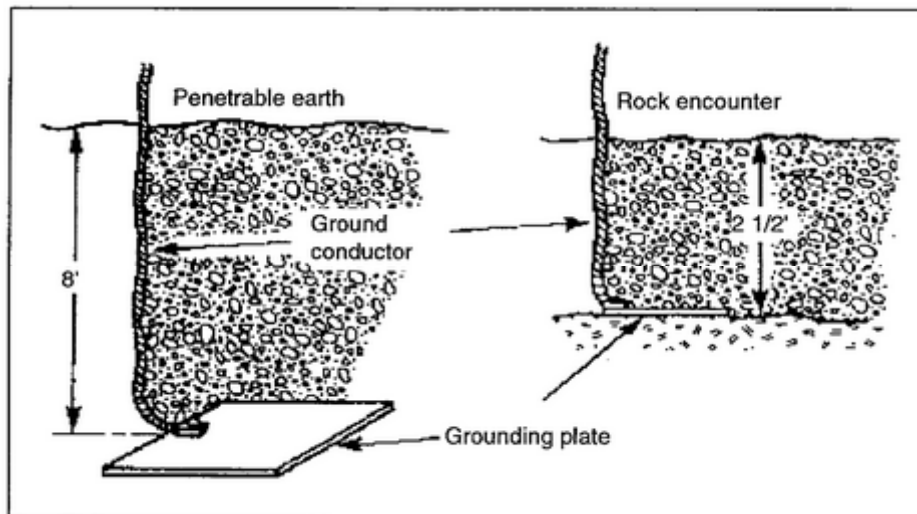

Figure 1-22. Depth of grounding plate
- e. The depth requirements for grounding plates are the same as those for grounding rods (Figure 1-22).